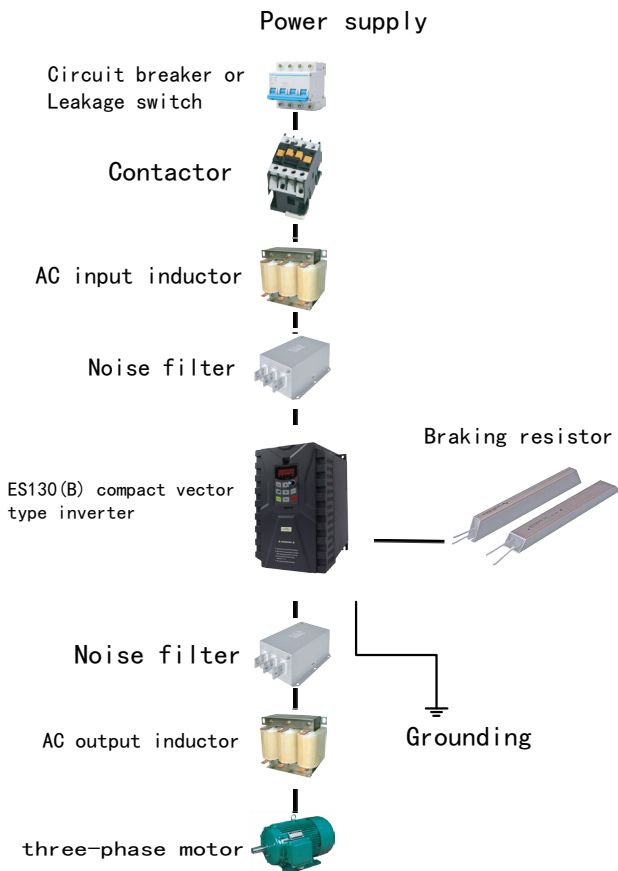

Figure3-8 ES130(B) series inverter and peripheral equipments connecting diagram
The diagram among ES130(B) series inverter and peripheral equipments showing as Figure3-8.